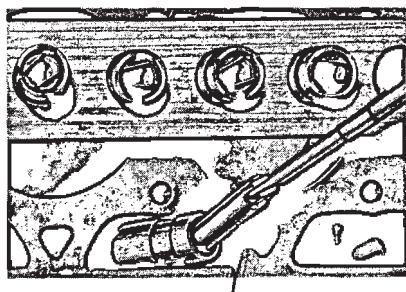

FIG. 27—Removing Valve Lifter
11. Using a magnet, remove the valve lifters and keep them in order so that they can be installed in the original location (Fig. 27). If the valve lifters are stuck in the bores by excessive varnish, etc., it may be necessary to use a claw-type tool to remove the lifters.
2. Using a magnet, remove the valve lifters (Fig. 27). Place the lifters in a rack so they can be installed in the original positions.
1. Install new (or cleaned) hydraulic valve lifters through the push rod openings with a magnet (Fig. 27).